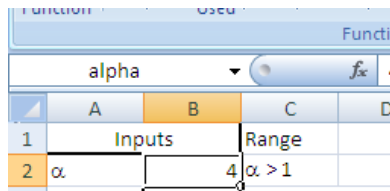

Figure 5: The name “alpha” has been entered into the Name Box, as shown.
2. Name the “alpha” cell in B2. Click on cell B2, then enter the name “alpha” in the Name Box, as shown below in Figure 5: